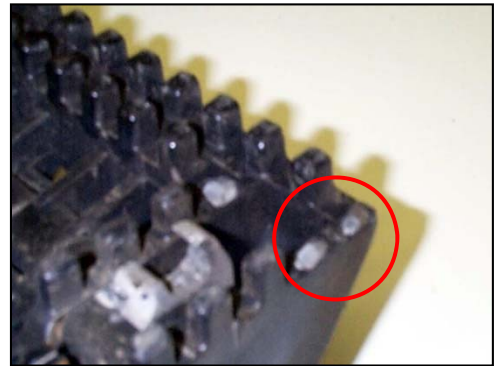

Figure 9: Missing Cleats on Waffle Area
- c) All the cleats in the “waffle area” found on the chock underside should be straight. If two adjacent cleats or more than three cleats over the entire waffle area are missing (see Figure 9), the chock is considered to be non-functional and must be replaced.